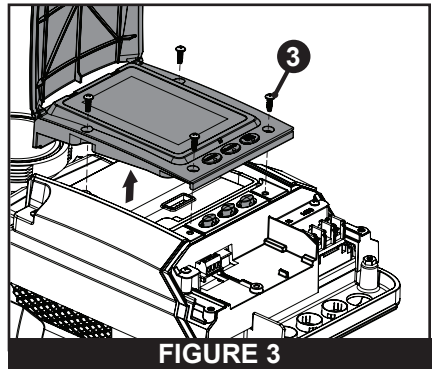

FIGURE 3
2. Align and place the Touchscreen Controller onto the Drive Assembly as shown in **FIGURE 3**.
4. Using the four provided Touchscreen Screws (3), secure the Touchscreen Controller to the Drive Assembly. See **FIGURE 3**.